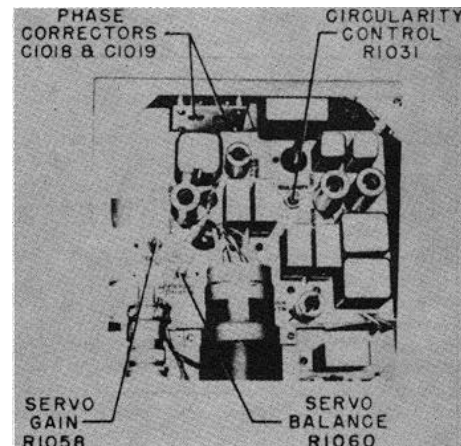

Figure 9-4C. Azimuth-Panoramic Indicator IP-81 ()/APA-69A, Internal Controls
d. Set the "SERVO GAIN" control R1058 (figure 9-4C) full counterclockwise for minimum gain.